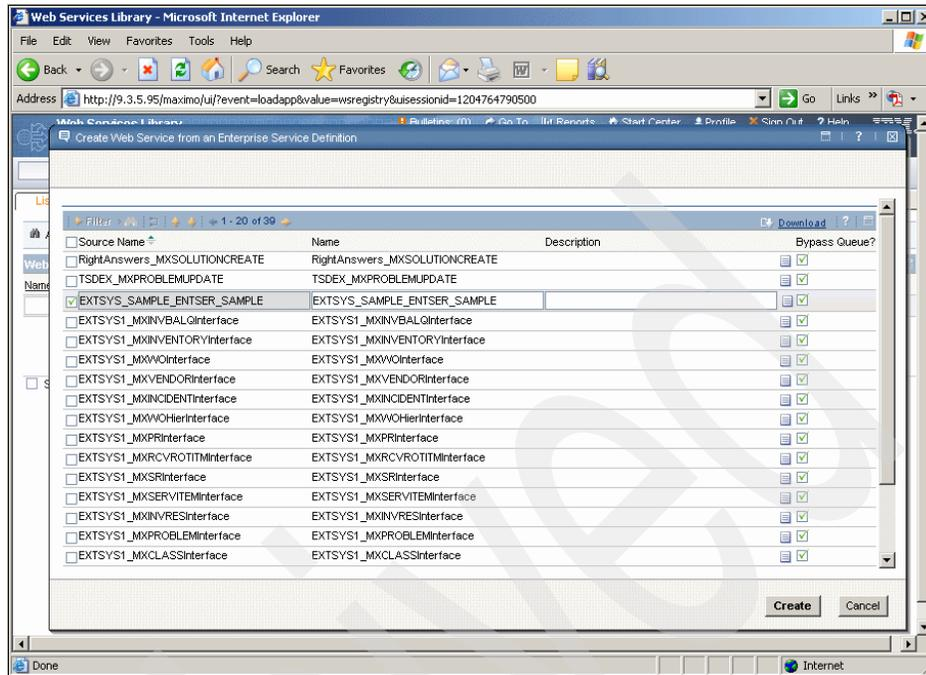

Figure 2-43 Selecting the enterprise service
2. Select the enterprise service called **EXTSYS_SAMPLE_ENTSER_SAMPLE** and click **Create** as shown in Figure 2-43 on page 98.